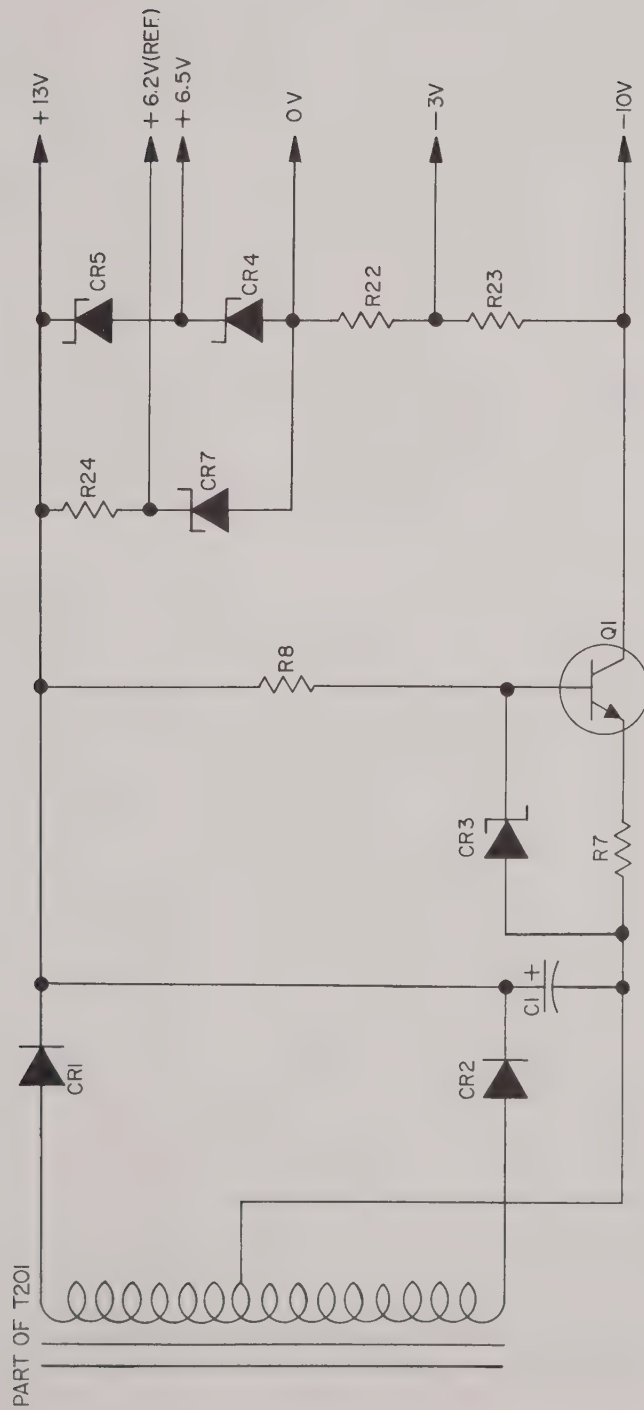

FIG. 4-4 PAR - AMPLIFIER POWER SUPPLY, DETAIL
- 4-9 The Amplifier Power Supply. (Refer to FIG. 4-4) This auxiliary supply delivers all necessary operating voltages for the DC amplifier and supplies the reference voltage. It is derived from a winding on regulator transformer T201. Silicon diodes CR1 and CR2 comprise a full wave rectifier, with C1 as the capacitor input filter. A constant current source (Q1), followed by two zener diodes (CR4, CR5) provides the operating voltages for the amplifier. The reference voltage for the comparison bridge circuit is derived from zener diode CR7.